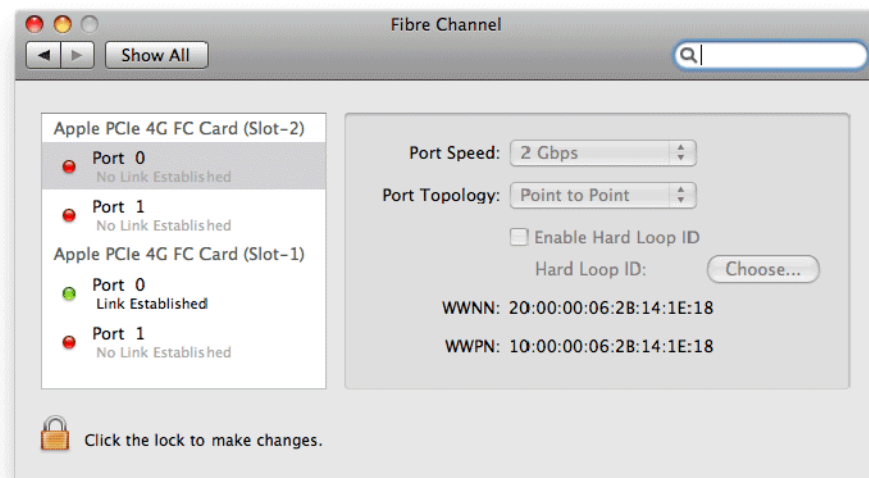

Figure 8-1: Fibre Channel Panel
2. Select **Fibre Channel** from **System references**. The Fibre Channel panel shown in Figure 8-1 appears.